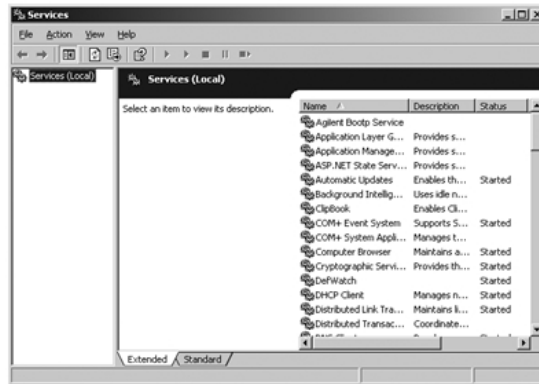

Figure 67 Windows Services screen
- 1 In the Windows control panel, select **Administrative Tools > Services**. The **Services** screen appears, see Figure 67 on page 243.